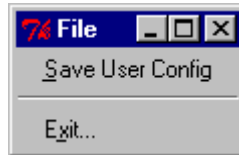

Figure 4-2. File Menu with Exit Selection
1. *Click* the **F**ile menu. A drop-down menu appears. Figure 4-2 shows the **F**ile menu and the **E**xit selection.